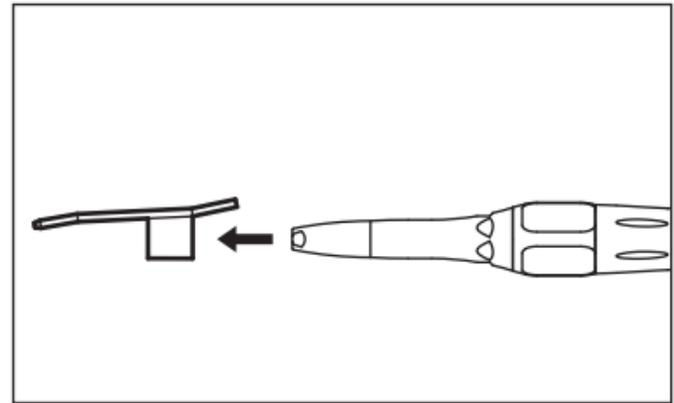

Fig. 9
5) Remove the irrigation tube from the irrigation nozzle and remove moisture with a dry cloth. Then remove the irrigation nozzle from the handpiece. (Fig. 9)